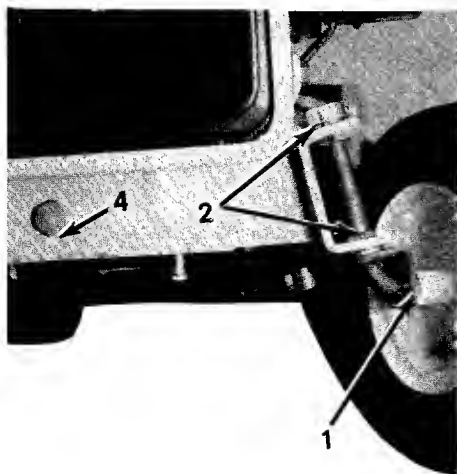

Figure 8.
1. **Front Wheel Bearings (4).** Lubricate with SAE 30 oil once a season or after every 25 hours of operation. (See figure 8.)
2. **King Pin Bearings (4).** Lubricate with SAE 30 oil once a season or after every 25 hours of operation. (See figure 8.)
4. **Pivot Bolt.** Lubricate with SAE 30 oil once a season. (See figure 8.)